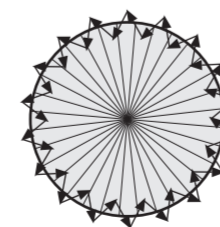

FIG.21
- 4.3.4 Walk from outside across to the detection pattern until LED turns on for approx. 2sec then off, the next trigger should be 2sec interval (See FIG.21).